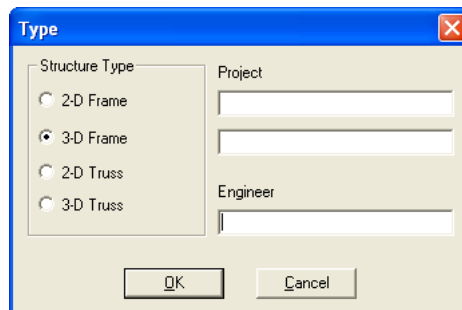

Figure 3-10 Type dialog box
- From the **Define** menu, select **Type**. The dialog box of Figure 3-10 appears.